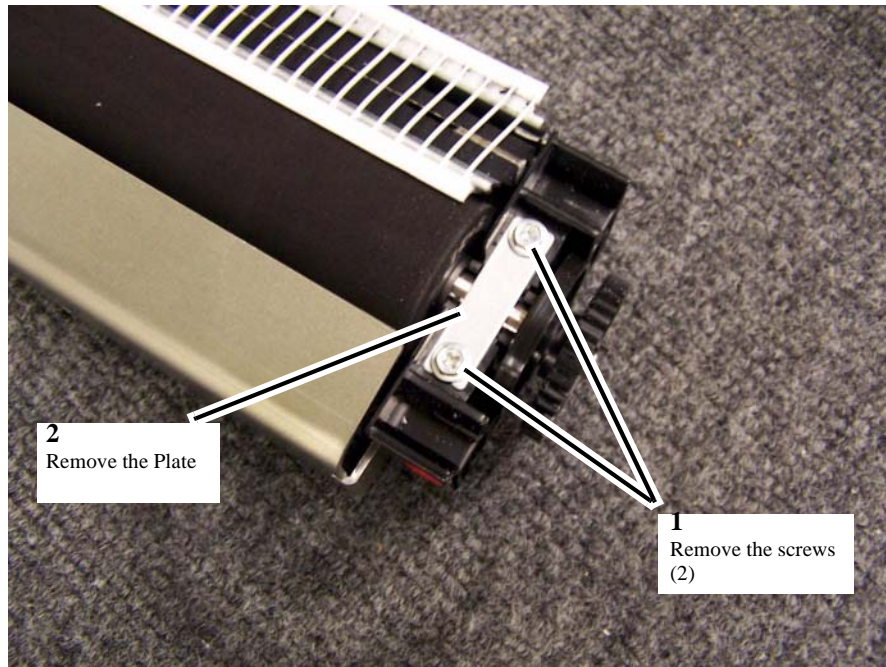
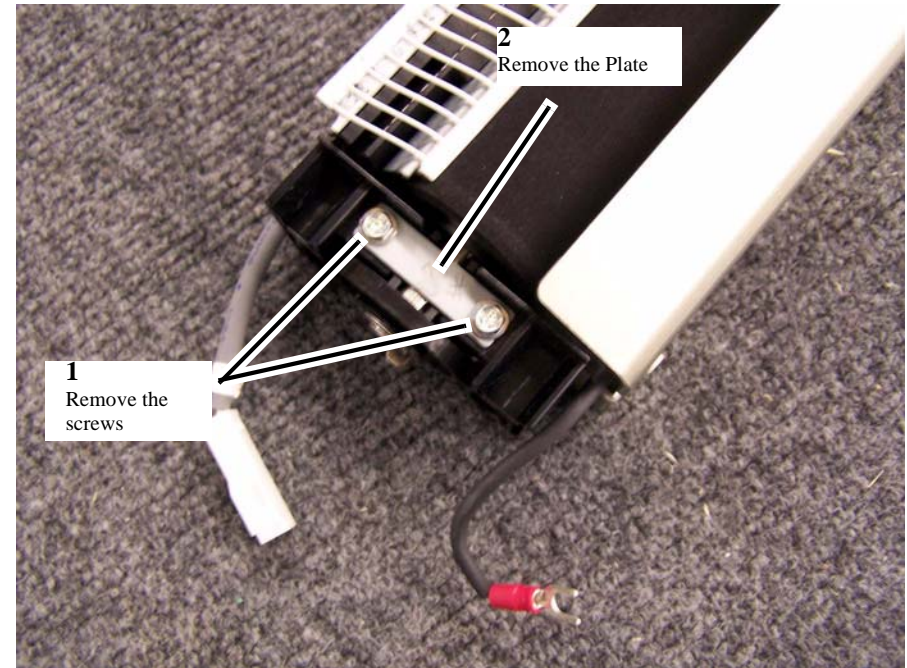

Figure 1 Removing the screws and Plate at the right end
Figure 2 Removing the screws and the plate at the left end
- a. Remove the screws (2 per end) and the Plates (1 per end) (Figure 1 and Figure 2).